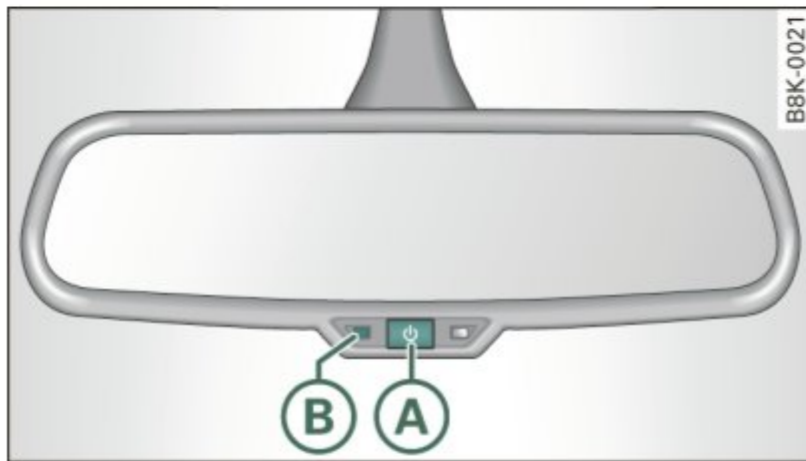

Fig. 71 Inside rear view mirror
- Press button **A** ⇒ fig. 71 *briefly*, - the indicator light **B** goes out.